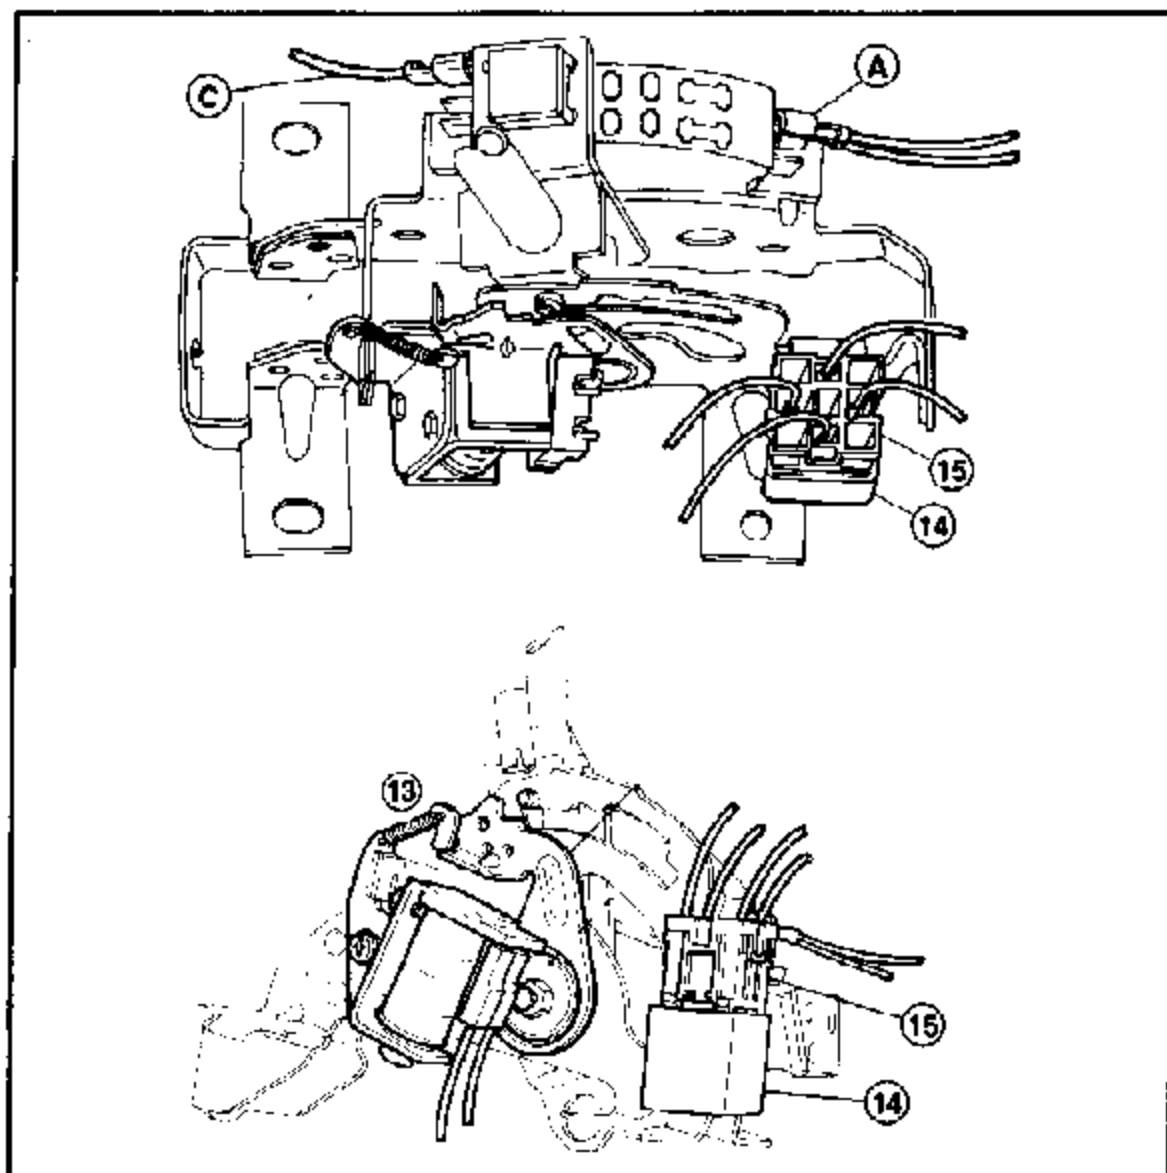

Fig. 2 Electrical components, installed
- push relay (14) (w/attached harness (15)) onto selector lever bracket (see Fig. 2 on page 4)
- route R/BK wire through console and over drivers footwell to brake light switch: splice (17) to either R/BK wire on switch
- remove BK/BL wire and terminal from cavity 15 of neutral safety switch connector. insert into single wire connector (16) of kit harness
- remove BR/BL wire and terminal from cavity 50A of neutral safety switch connector insert into single wire connector (16) of kit harness
- connect lockout solenoid (8) connectors (E), (F) (either terminal OK)
- install return spring (13) between lockout lever and solenoid bracket (see Fig. 2, page 4)